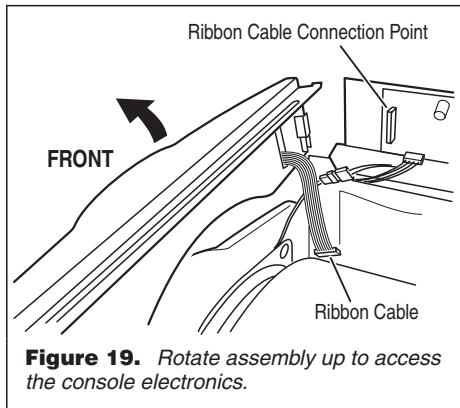

Figure 19. Rotate assembly up to access the console electronics.
1. Perform steps 1 and 2 under Accessing & Removing the Electronic Assemblies, page 7, then disconnect the ribbon cables that run between the console and the machine control board. Make the disconnection at the machine control side. Remove the two screws that fasten the console assembly to dryer, then remove the console assembly, sliding it up and off from the front of the machine. See figure 19.